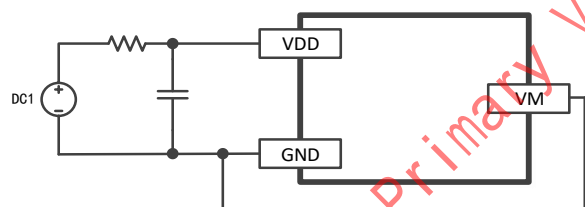

Figure6-5
- a. As shown in the figure6-5, connect the positive pole of DC1 to B +, and the negative pole to GND, and set the voltage to 3.6V;